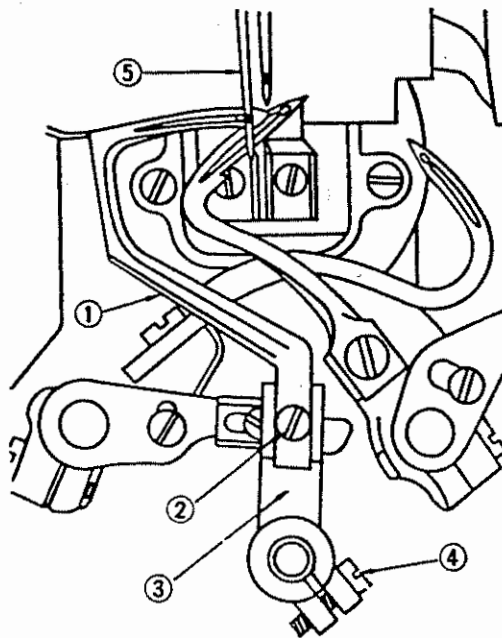

Fig. 28
#### 4. How to set the safety stitch needle to the safety stitch looper (Fig. 28, a, b, c, d, e)
Fig. 28 a      Fig. 28 b
Next, as shown in Fig. 28 a, determine the position of the looper so that when the safety stitch looper ① advances, the thread hole of the
looper will line up on the left side of the needle eye at same height. Then, tighten the set screw ④ (Fig. 28) firmly.
When the safety stitch looper retreats, the blade point of the looper comes between the center of the needle eye and the upper part of the needle eye as shown in Fig. 28 b.
If, after having been set as shown in Fig. 30a, it still does not conform to Fig. 28c, it will be necessary to change the timing. To do so, remove the frame top cover ⑥ (Fig. 5), and adjust by loosening the eccentric cam set screw ①, (Fig. 28 e).
Fig. 28 c
Fig. 28 d
Fig. 28 e